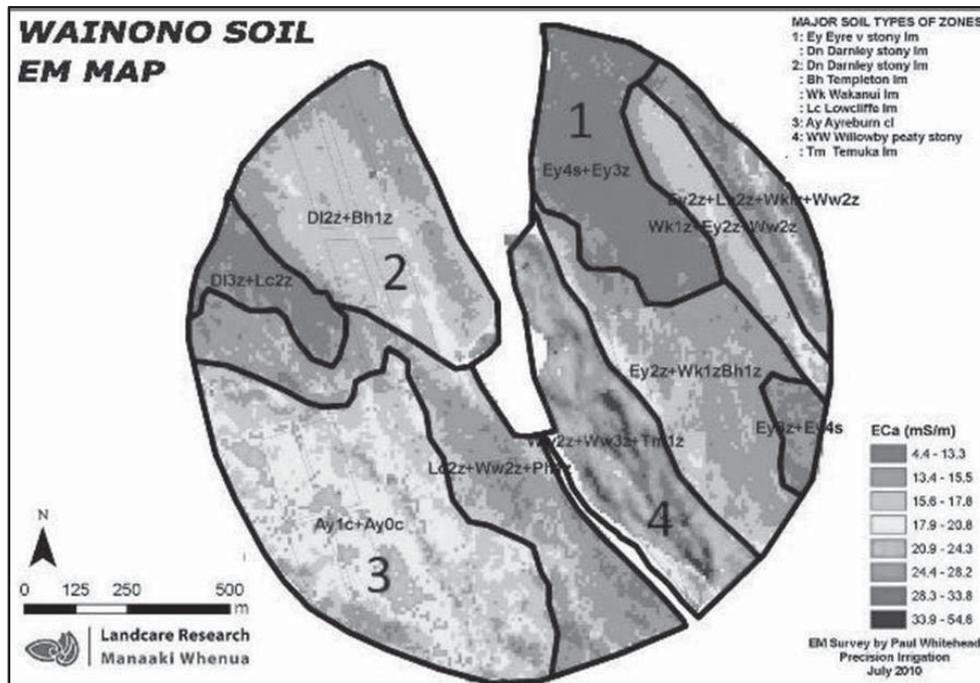

Figure 8. Irrigation zones from soil type and EM scan, Wainono Dairies.
3. A digital map of the irrigated area with soil water zones; for example Figure 8.